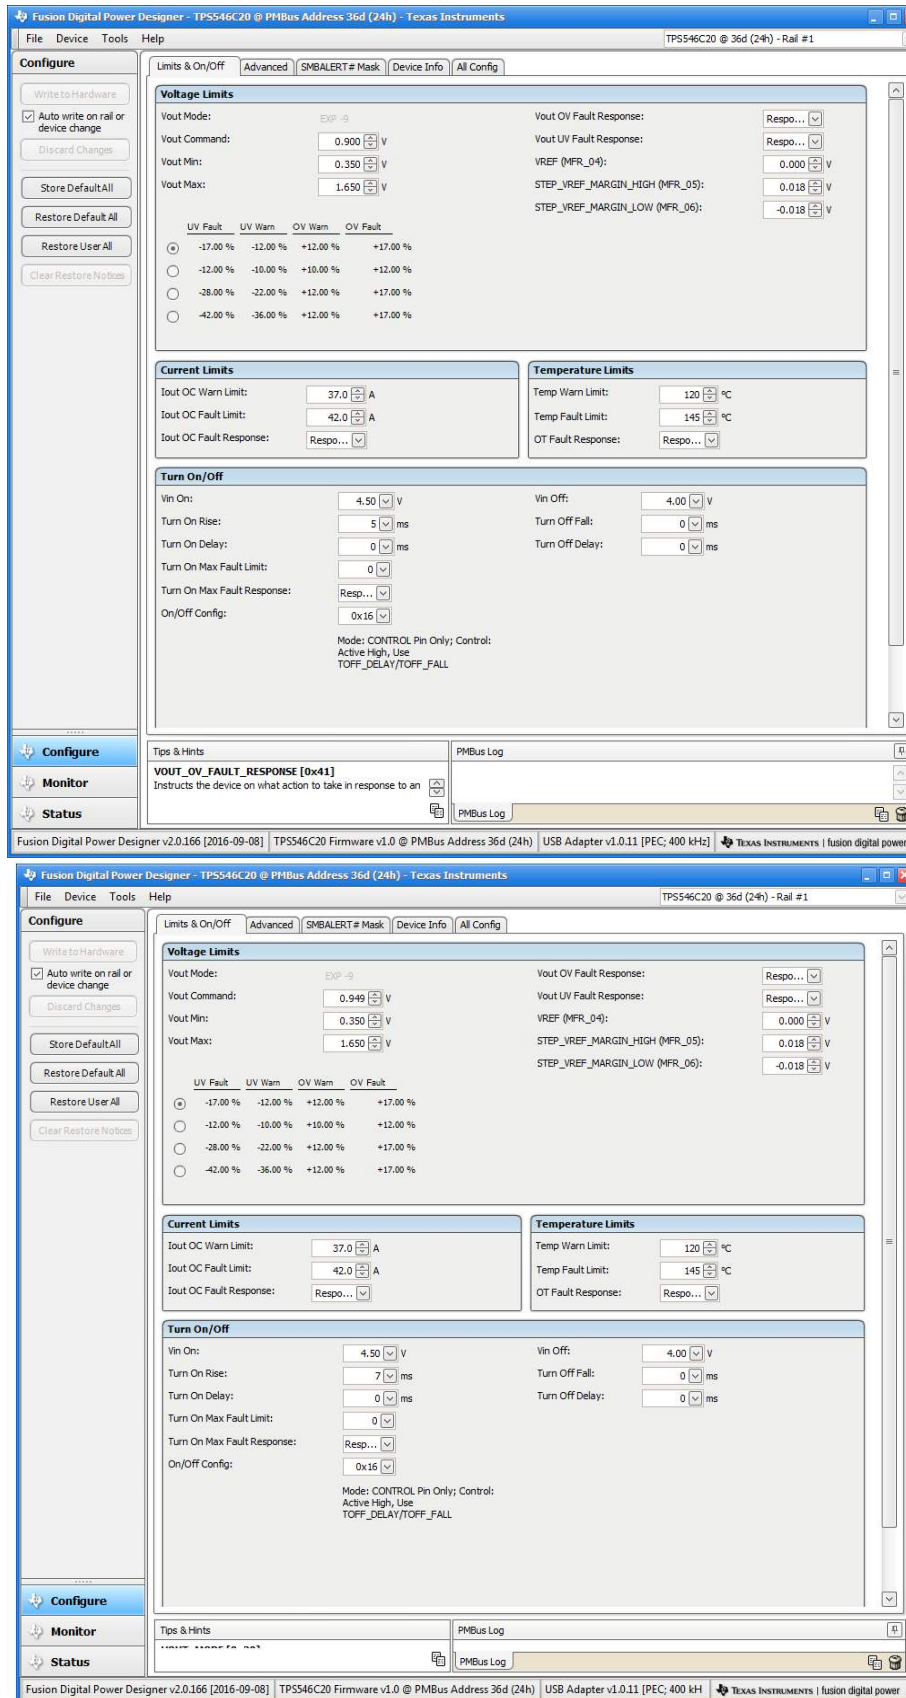

Figure 30. Configure- Limits and On/Off for U1 and U2
- Use the **Limits & On/Off** tab Figure 30 to configure the following: